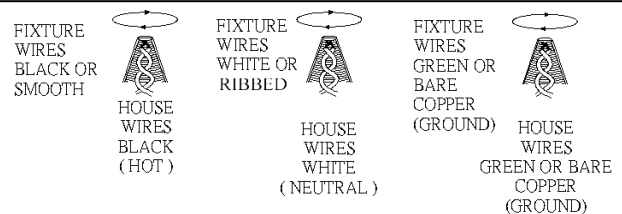

Fig.3
CONNECTING THE WIRES (FIG. 3)
20. At this point, connect the electrical wires as shown in Fig. 3 making sure that all wire connections are secured. If your outlet box has a ground wire (green or bare copper), connect the fixture's ground wire to it. Otherwise, connect the fixture's ground wire directly to the crossbar (P) using the green screw provided.
21. After the wires are connected, tuck them carefully into the ceiling outlet box. Raise the canopy (U) to the ceiling, then raise the lock collar (Y) and thread onto the ceiling loop (T) protruding through the canopy (U).